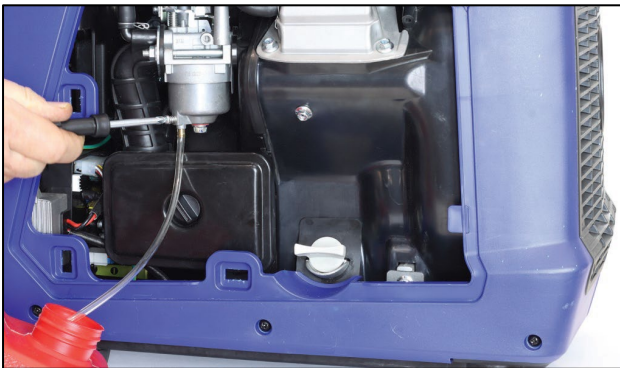

Figure 26 Drain the Carburettor
5. Use the screwdriver to loosen the fuel drain screw by turning it anti-clockwise and then carefully drain the fuel out (see Figure 26). Take care to wipe up any spills immediately.